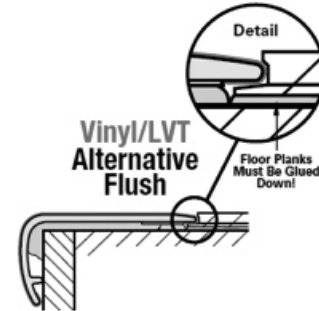

Fig. 12
4. When utilizing a flush installation the adjacent flooring planks must also be adhered to the subfloor (Fig. 12).